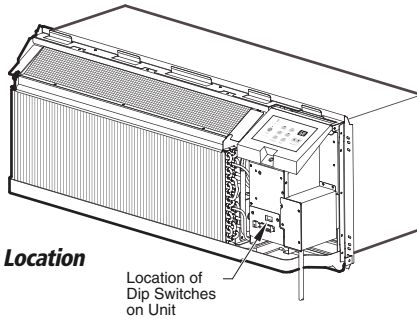

Fig. 17 – Dip Switch Location
9. Locate configuration dip switches above thermostat terminal connections. Set switch #2 "UP" for Wall Thermostat Mode (see Fig. 17).